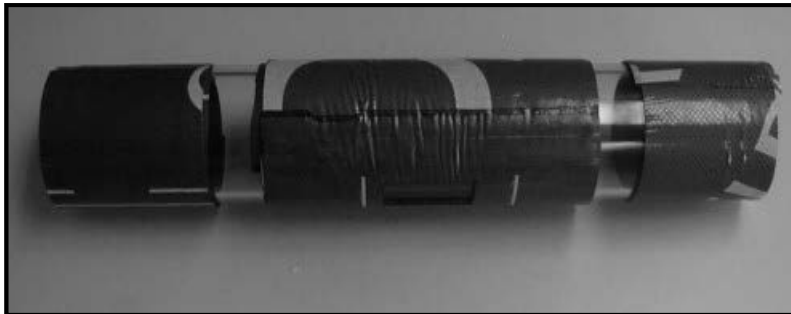

Figure 25: Completed DMP-1 Installation
12. Wrap each of these strips around the pipe on the outside edge of the clamping fixture, one upstream and one downstream. The completed damping material installation should appear similar to *Figure 25* below.